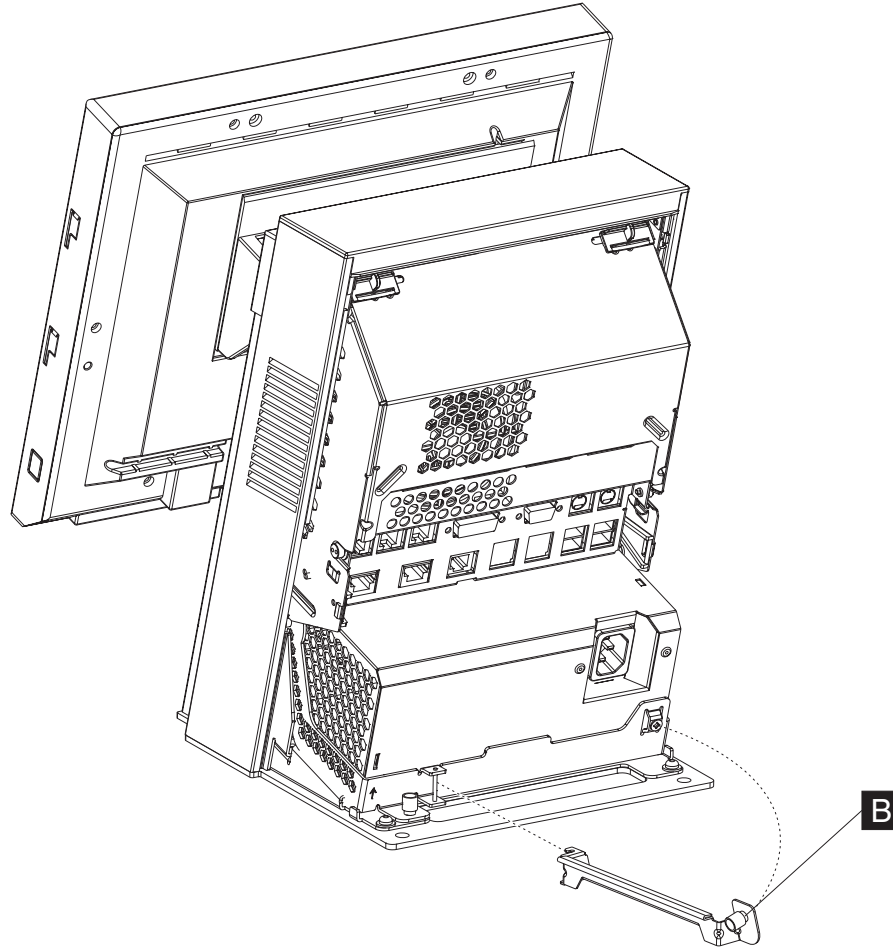

Figure 21. Removing the cable tie bar
3. Loosen the captive thumbscrew **B**, as shown in Figure 21.